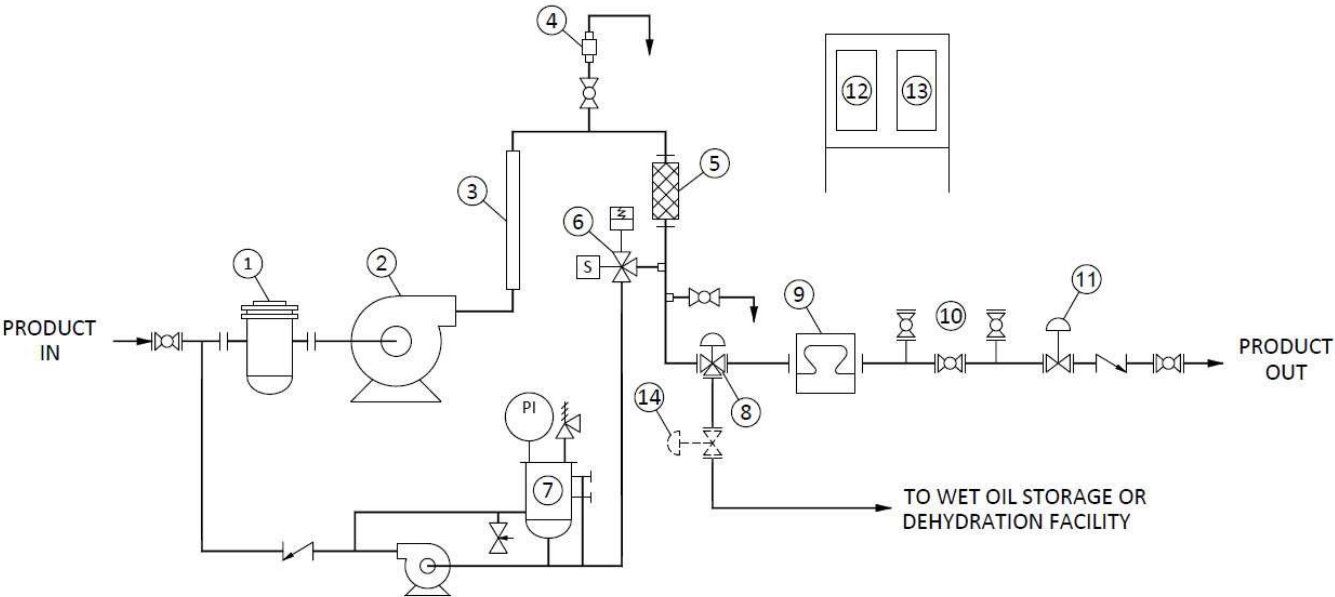

Figure A-1: Typical LACT Unit Schematic
- 1. The sample probe shall be connected to a three-way solenoid valve with a volume regulator as close as practical but not greater than 10 inches. The piping shall be level or slope down to the valve and shall be a minimum 3/8 inch in diameter. Refer to the Typical LACT Schematic in Appendix A, Figure A-1.